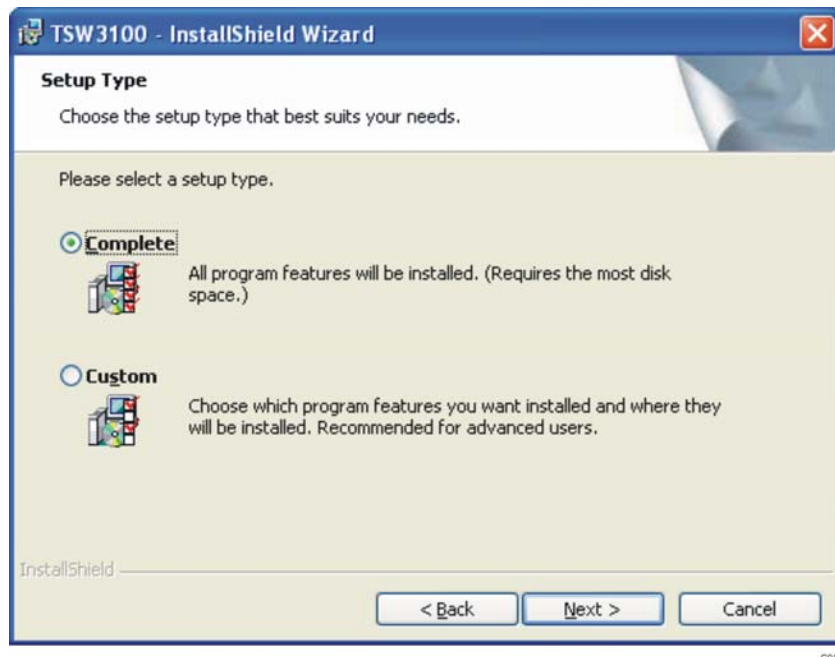

Figure 15. Setup Type
4. On the Setup Type (Figure 15) display, select the *Complete* Setup Type option and click *Next*.